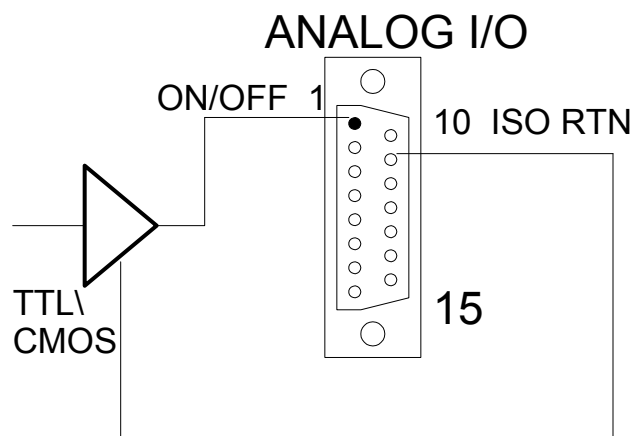

Figure 4-10: Remote On / Off Using Isolated TTL/CMOS Voltage Supply
2. Remote on/off control may be accomplished by a TTL/CMOS source. Application of a high state TTL/CMOS voltage will turn off the power supply. See Figure 4-10 for connection requirements.